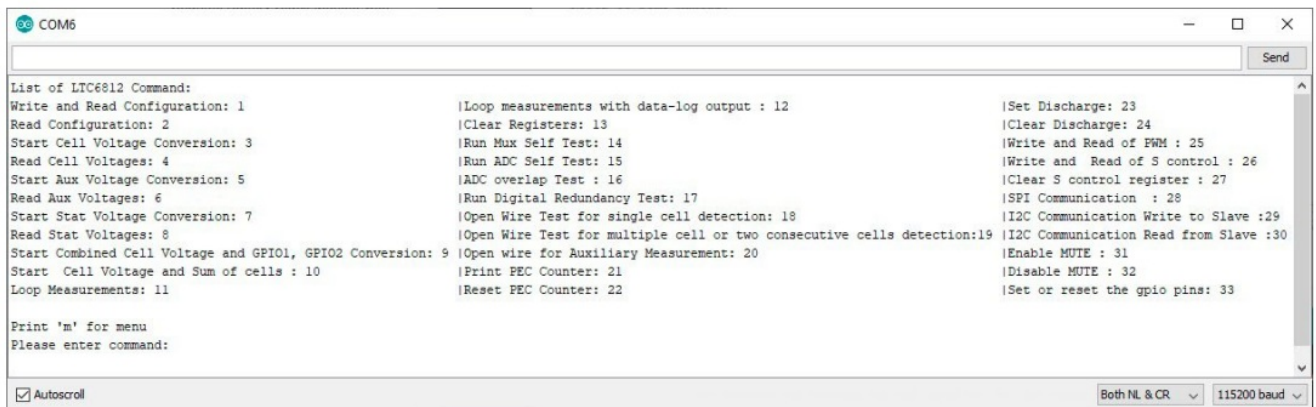

Figure 10. DC2350AA Sketch Menu
- d. As shown in Figure 10, when configured correctly the DC2350AA sketch menu will appear.